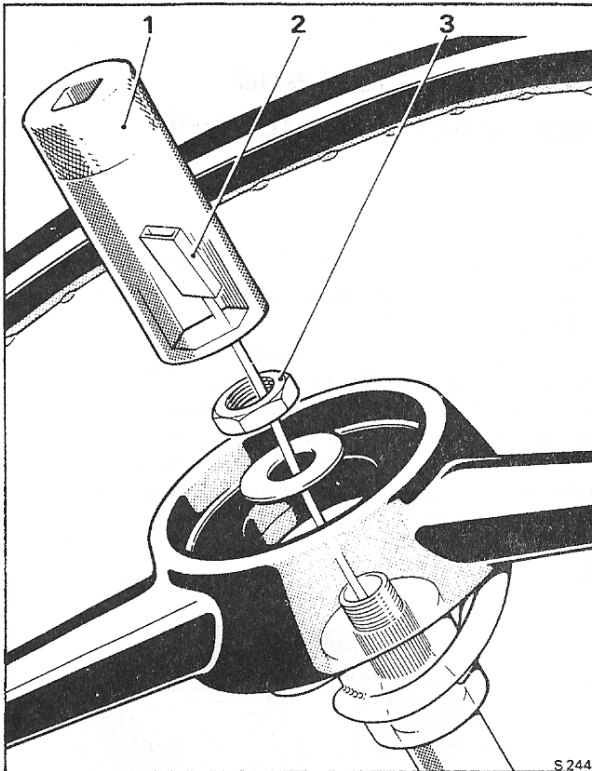

Fig. N28 Use of deep socket on steering wheel nut
9. Remove the steering wheel centre nut and washer using a  $\frac{3}{8}$  in. A/F, deep body, hexagon socket spanner (see Fig. N28).